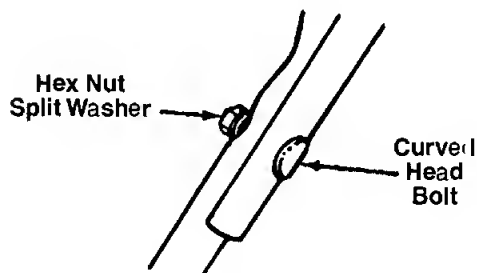

FIGURE 6.
2. Secure the upper handle to lower handle using the curved head bolts, split washers and hex nuts as shown in figure 6. The head of the carriage bolts go on the outside of the handle.